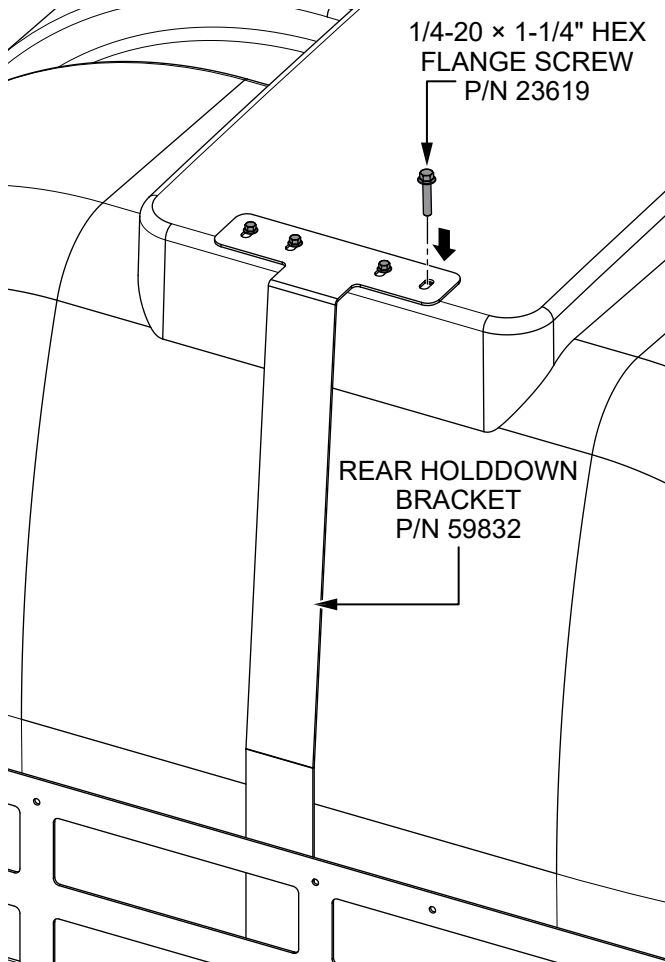

Figure 11. Install Rear Holddown Bracket Top Screws
2. There are four 1/4-20 blind nuts installed inside the four holes at the rear of the tank. Line up the four holes in the **rear holddown bracket (P/N 59832)** with the four holes in the rear of the tank as shown in Figure 11. Loosely install **four 1/4-20 × 1-1/4" hex flange screws (P/N 23619)** to hold the bracket in place. **DO NOT** fully tighten the screws at this time.
- Securely tighten the four 1/4-20 × 1-1/4" hex flange screws (P/N 23619) that were installed during step 2 (Figure 11).